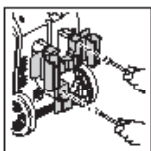

Fig. 1
- Install the accessory holder on the back of your washer (Fig. 1). You'll notice where the accessory holder meets the back of the unit. You will see posts and holes enable easy placement of the accessory holder and easy tightening of the screws. Place the screws in the holes provided on the accessory holder and screw them in. Do not use power tools, hand tighten instead.
- Using one of the supplied screws, install the small electric power cord holder below the accessory holder so that the "L" - shaped holder faces downward. The electric power cord can now be wrapped around the accessory holder and the bottom "L" - shaped holder while your power washer is not in use (Fig. 1).